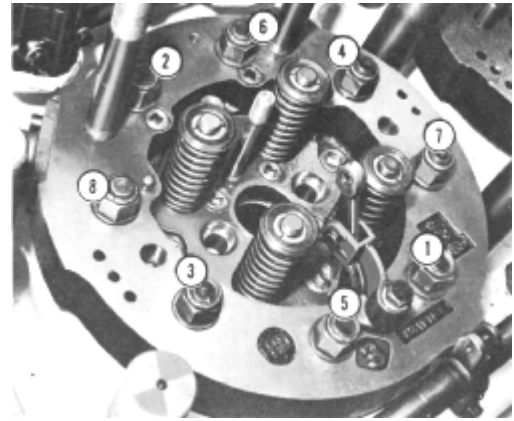

Fig. 5-23 - Head-To-Liner Nut Tightening Sequence
63. Following the sequence as shown in Fig. 5-23, torque the head-to-liner nuts to 102 N-m (75 ft-lbs).